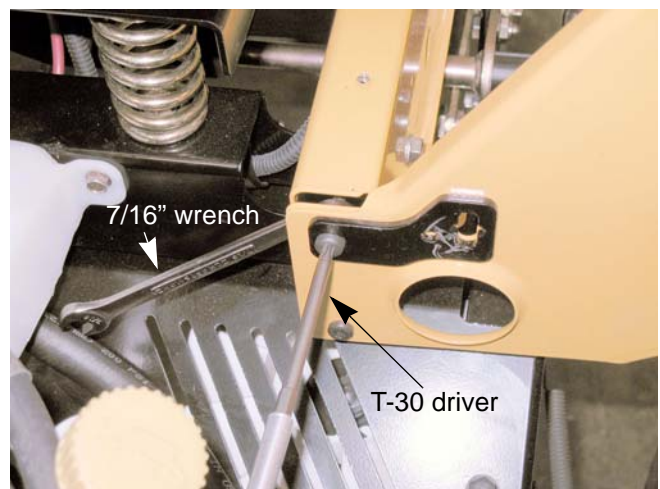

Figure 4.20
7. Remove the two screws that hold the rear of the control console to the seat box assembly using a T-30 torx driver and a 7/16" wrench. See Figure 4.20.